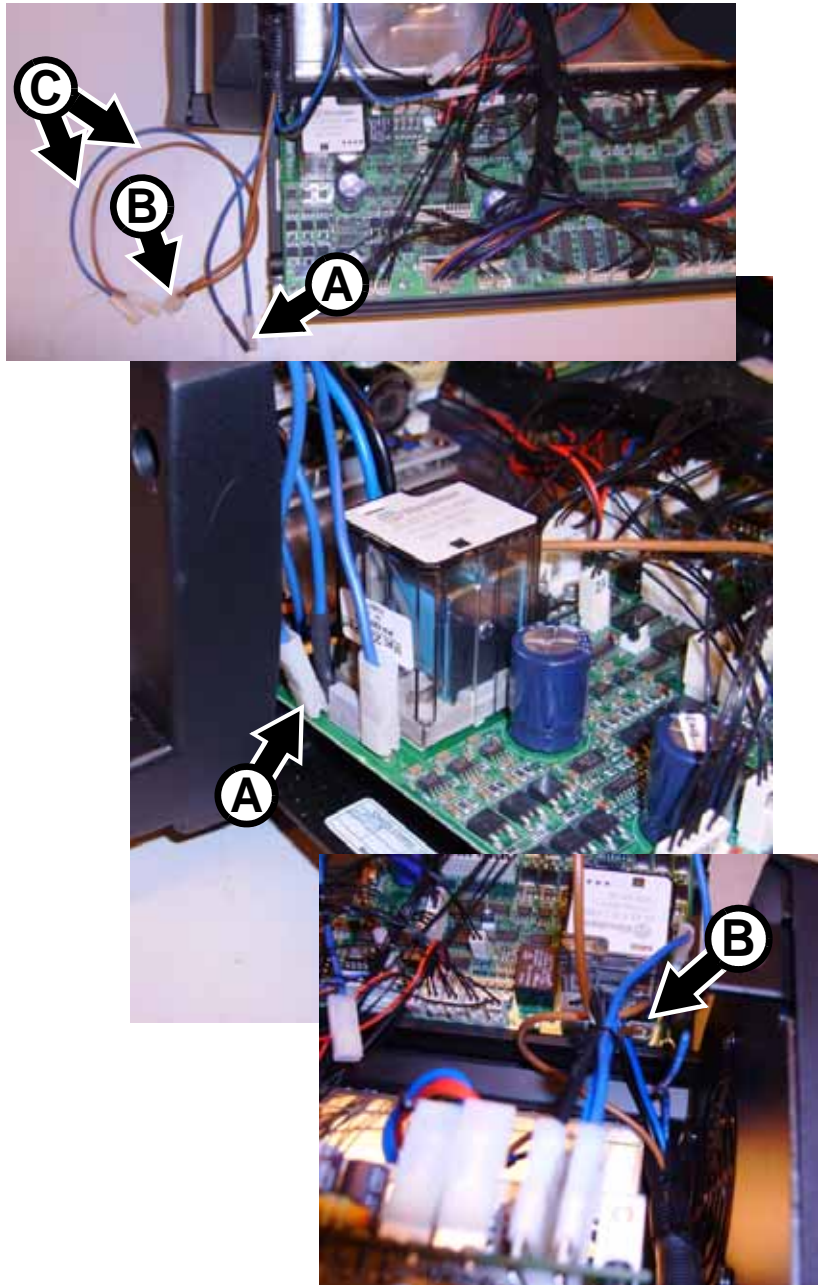

Figure 31
33. See Figure 31. Still working with the ballast wiring harness from the mains filter, connect the double spade connector with the blue leads **A** to connector J8 beside the lamp on/off relay, and connect the double spade connector with the brown leads **B** to connector J5. make sure that the double spade connectors will not be trapped or squeezed when you close the PCB side cover.
34. You are now left with one free blue and one free brown lead (**C** in Figure 31) connected to the double spade connectors you have just installed. See Figure 32. Connect the free blue lead and the free brown lead to spade connectors PL1 and PL2 (arrowed) on the remote lamp on/off opto-switch PCB you installed in step 25. (photo shows PCB before installation). Polarity is not important.